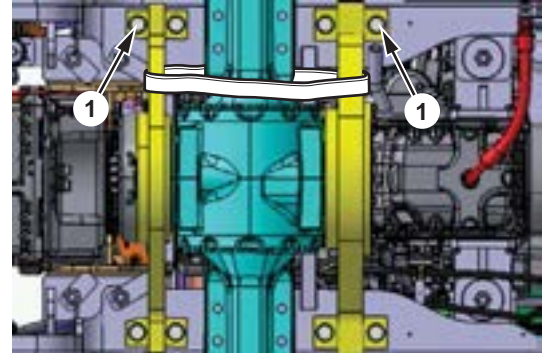

Figure 21 Bottom of the Rear Frame
20. Remove bolts and washers (1, Figure 21) (4 ea) from the axle support.